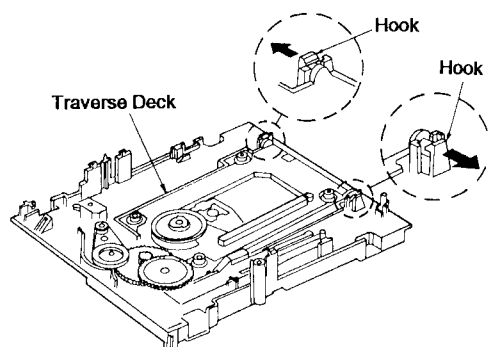

Figure 25
- (1) After removing the Tray, unhook two Hooks securing the Traverse Deck as shown in Figure 25.